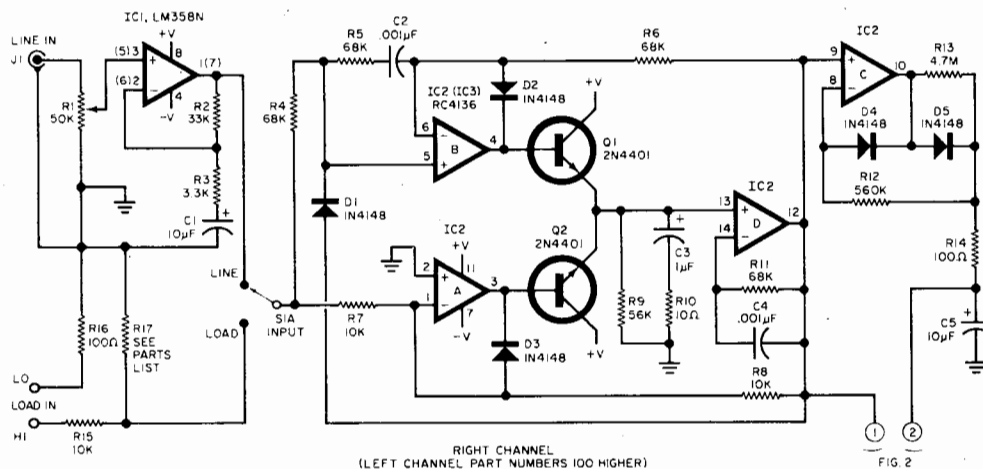

Fig. 1. Schematic diagram of one channel of the level meter.
**Circuit Operation.** Since both channels are the same, only the right channel is shown in the schematic in Fig. 1. Parts numbers for the left channel are the same but in the 100 series—that is, *R1* in the right channel becomes *R101* in the left channel.